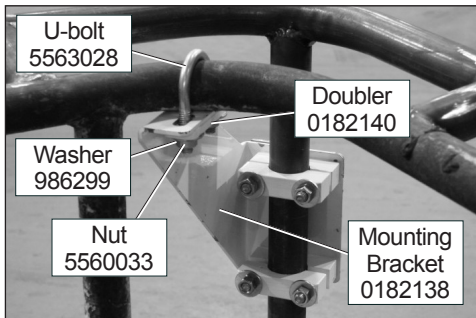

Figure 1 – Lanyard Bracket Mounting
1. Position a lanyard mounting bracket (0182138) at one corner of the platform. Loosely fasten it to the inner top rail using a U-bolt (5563028), doubler (0182140), and a washer (986299) and nut (5560033) on each leg of the U-bolt. Refer to Figure 1.